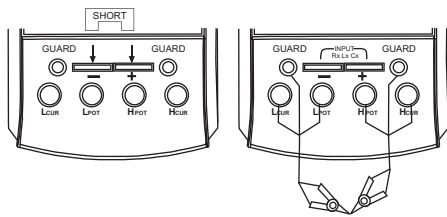

Figure 6
- a) When using square terminals, insert the short socket to the square terminal and make  $L_{CUR}/L_{POT}/H_{POT}/H_{CUR}$  terminals hang in the air (shown in figure 6);